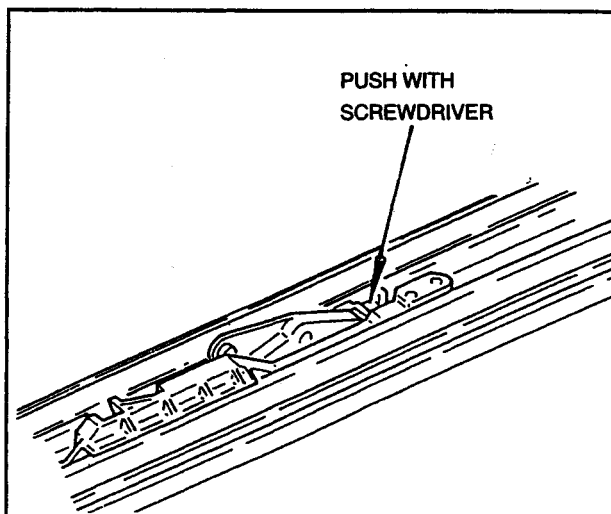

Fig. 12 - Pushing Mechanism Rearward.
9. Place a screwdriver in the mechanism as indicated in Fig. 12. Push this mechanism rearward into the slide position. Continue pushing backwards by placing a hand on the front of the mechanism. Three locator screws will become accessible.